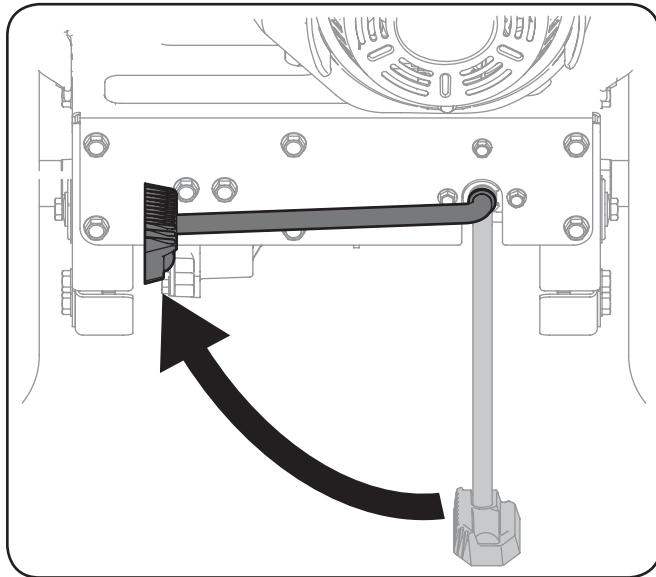

Figure 5-6
2. Put the Latch'n Lock™ kickstand into the lock (Up) position, see Figure 5-6.